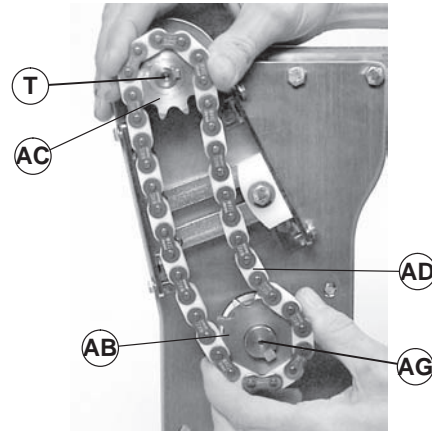

Figure 26
Make sure sprocket keys are installed on conveyor input shaft (Figure 26, item T) and gearmotor output shaft (AG).
6. Install new timing chain (AD) over sprockets (AB and AC). Install timing chain and sprockets on conveyor input shaft (T) and gearmotor output shaft (AG). Do not tighten sprocket set screws.